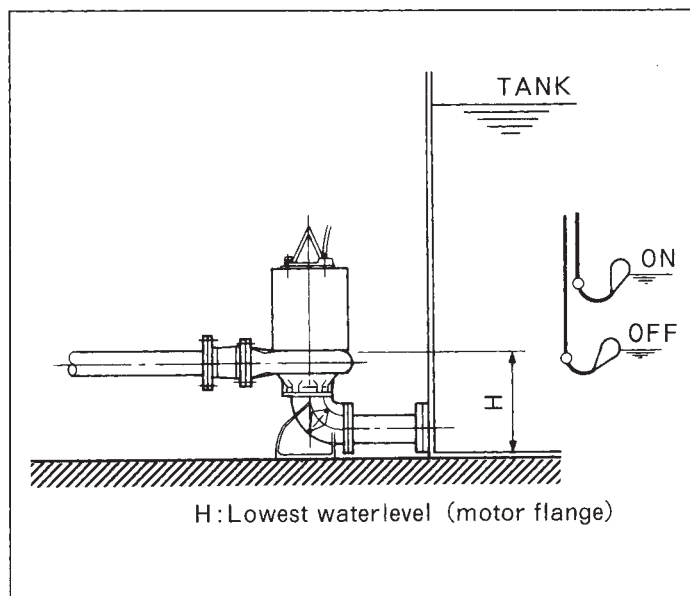

Fig. 1
5. Do not operate the pump for a long time with the water level near the minimum operating level as the automatic cut-off switch incorporated inside the motor will be activated. To avoid dry operation, install an automatic operating system, as shown in Fig. 1 and maintain a safe operating water level.